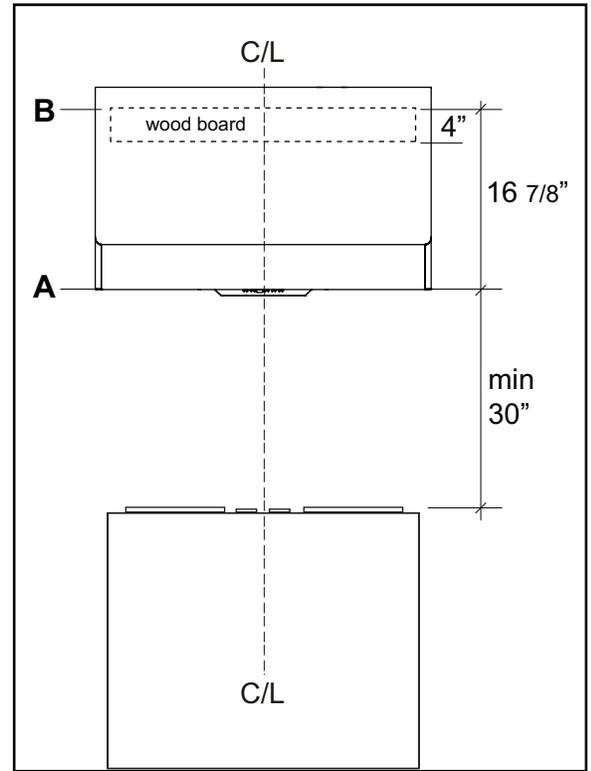

FIG. 1
3. Choose desired height above cooking surface (30" min). Level and mark hood bottom, line A (FIG. 1)
4. Level and mark top of wood board, line B (FIG. 1) 16 7/8" from line A.
5. Mark center line of wood board. Center and align top of board with line B. Secure wood board to studs using (4) M6 wood screws.